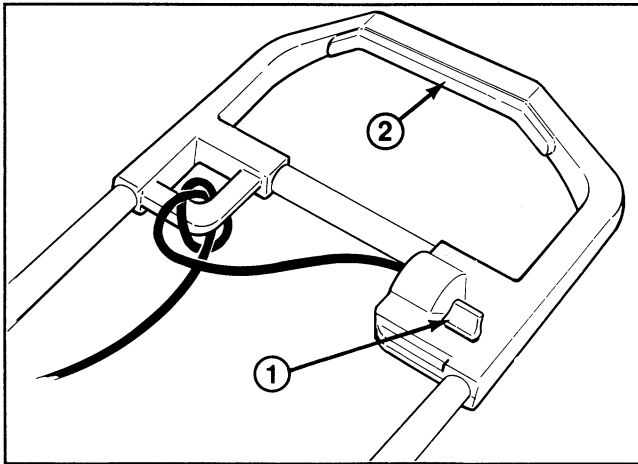

Figure 5
snowthrower; refer to page 5, Figure 5 for proper procedures.
2. Before connecting the extension cord to the snowthrower, tie the extension cord to the loop in the handle as shown in Figure 5. This helps prevent cord separation during operation.
To start rotor, squeeze the control bar. To stop rotor, release the control bar (Fig. 5).